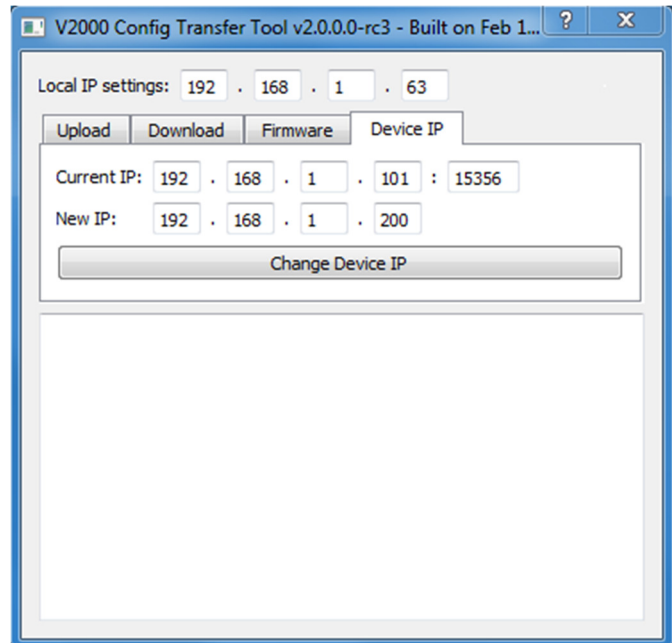

Figure 1 ASL Transfer tool – Device IP
1. Select the 'Device IP' tab - see **Figure 1**